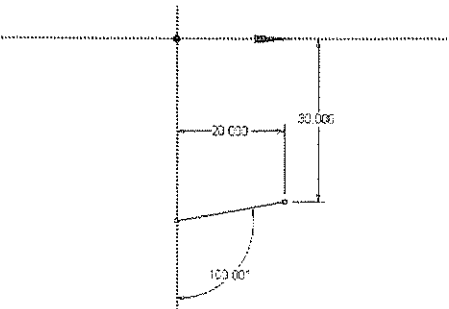

Figure 5-5 The inclined line along with its dimensions
- 4. Draw an inclined line in the fourth quadrant, refer to Figure 5-5.
- 5. Choose the **General** tool from the **Dimensions** toolbox and generate the dimensions of the inclined line, as shown in Figure 5-5.